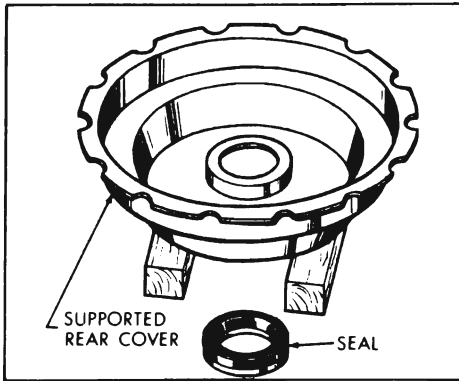

Figure 9-41—Removal of Bearing Seal from Rear Housing
4. Remove power piston assembly from rear housing and lay power piston aside in a clean place. **NOTE: Do not remove bearing seal from rear housing unless seal is defective and new seal is available. To remove seal, support rear housing and drive out seal with punch or screwdriver. Discard seal. See Figure 9-41.**